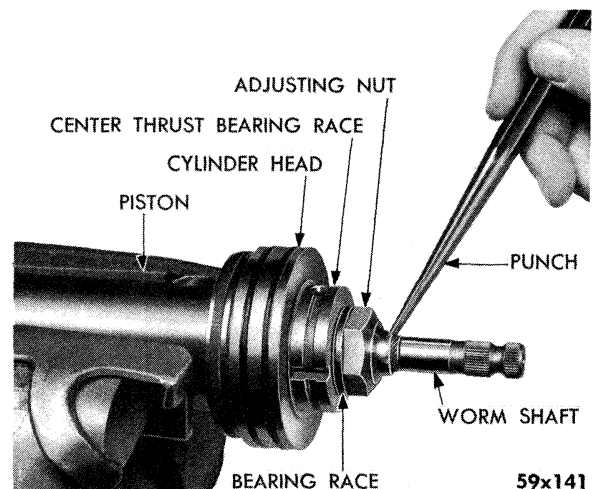

Fig. 114 — Staking Worm Shaft Bearing Adjusting Nut
- (c) Using a standard drift, having a flat point  $\frac{1}{4}$ " in diameter and with a sharp blow of a hammer, force the flanged section of the nut into the knurled section of the worm, as shown in Figure 114. The drift should be held on the centerline of the worm and perpendicular to the worm, but at a slight angle to the flange of the nut. The operation of seating the flange of the nut into the knurled section of the worm should be performed at a minimum of four locations spaced at approximately  $90^\circ$ . It is the first crimp that establishes the preload. It is advisable to check the 8 to 16 inch ounces preload after the first crimping operation is performed. If the preload has changed and is either too tight or too loose, it may be corrected by striking the No. 1 crimp a glancing blow in the right direction to either tighten or loosen the nut. When the center race torque is correct after the No. 1 crimp, the other 3 crimps may be completed with very little effect on the preload. The adequacy of the crimping should be checked by torquing the nut in either direction to 20 foot-pounds. If the center race torque remains unchanged, the crimping operation is considered satisfactory.